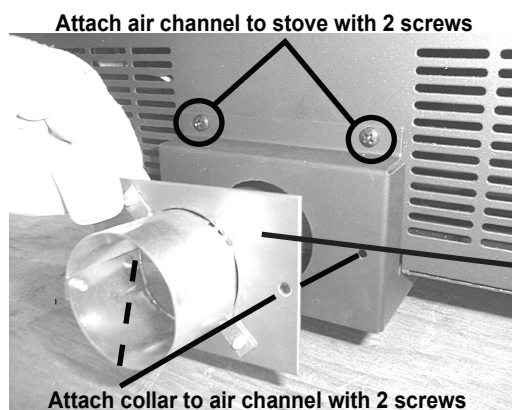

Figure 18.3
3. Secure air channel to appliance with 2 screws and secure the collar assembly to the air channel with 2 screws. **Figure 18.3**.